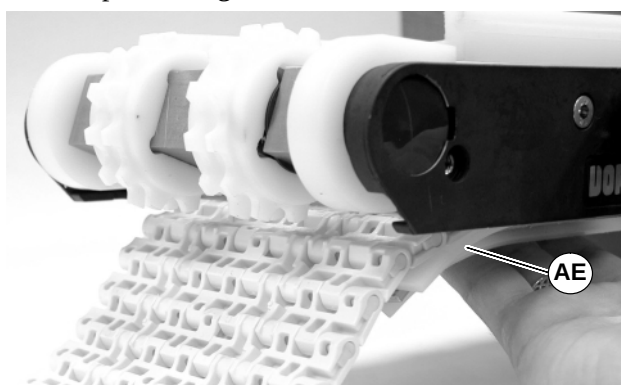

Figure 13
3. Feed belt into bottom wear strips (AE of Figure 13) and pull through to the far end.